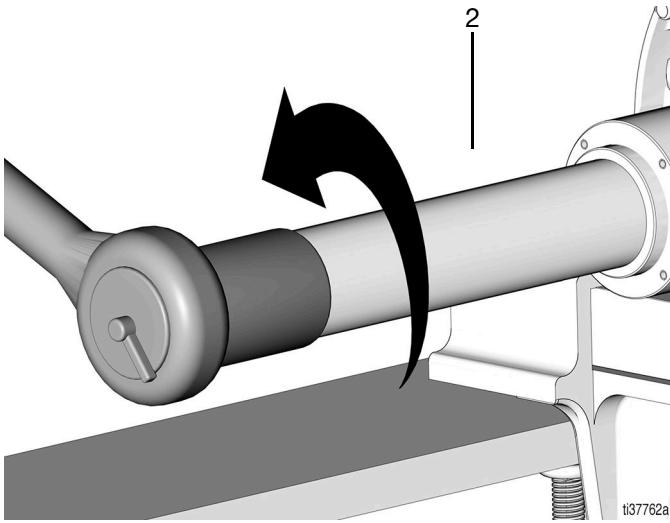

FIG. 11
- Using a 1-13/16 in. socket, slowly turn until it is loose, then continue removal of the pump cylinder (2) by hand (FIG. 11).